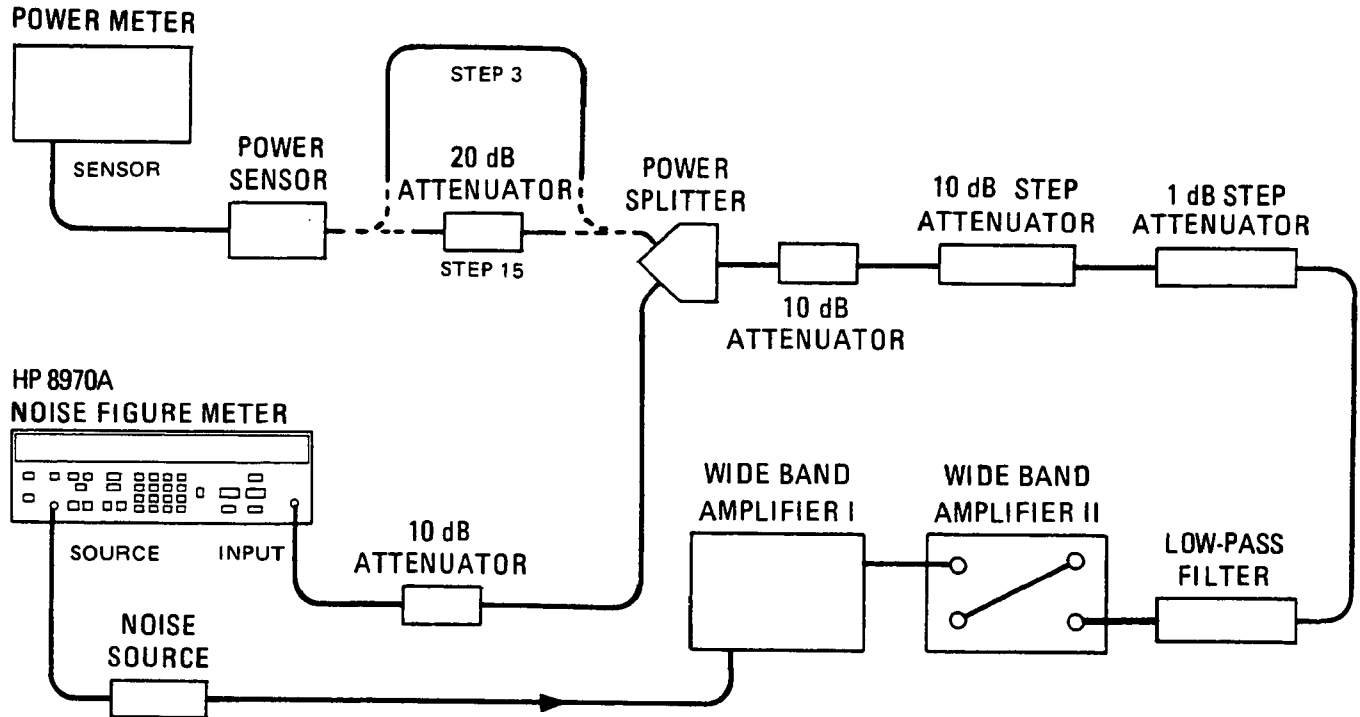

Figure 4-3. Gain Measurement Uncertainty Test Setup
3. Connect the equipment as shown in Figure 4-3.